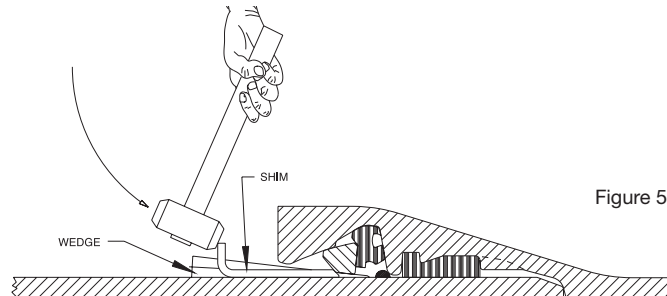

Figure 5
4. With a large hammer (such as a six pounder) vigorously drive one or two “L”-shaped shims under the locking segment until the ends of the shims firmly contact the spigot weld bead. (Fig. 5) Shims and wedges can be safely and firmly held against the pipe as they are hammered using a block of wood or a board. Safety precautions such as the wearing of safety glasses and keeping clear of the hammer during striking should always be taken to avoid injury.